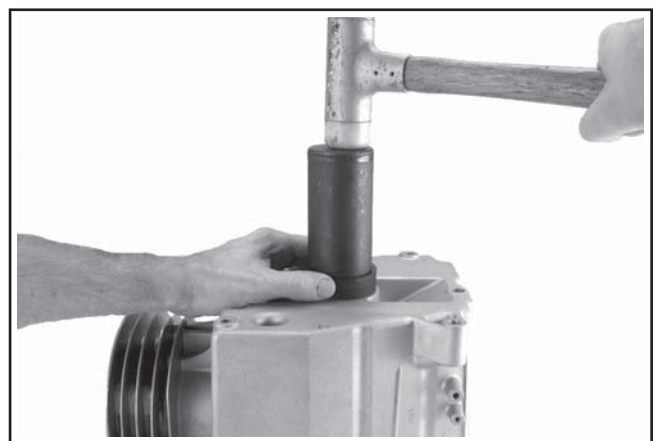

Figure 10-1. Installing PTO Side Oil Seal.
1. Use a seal driver and install to a depth of **5.5 mm (0.216 in.)** into the crankcase. See Figures 10-1 and 10-2.